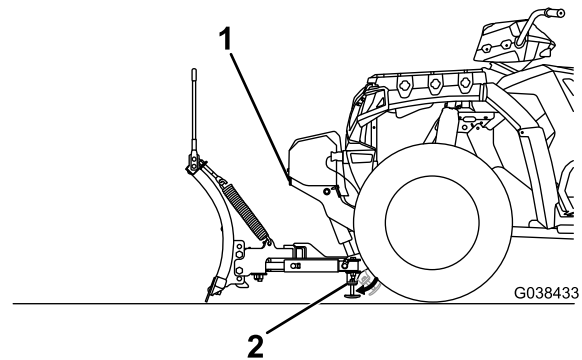

Figure 22
2. Pull the kickstand handle outward and lower the kickstand (Figure 22).